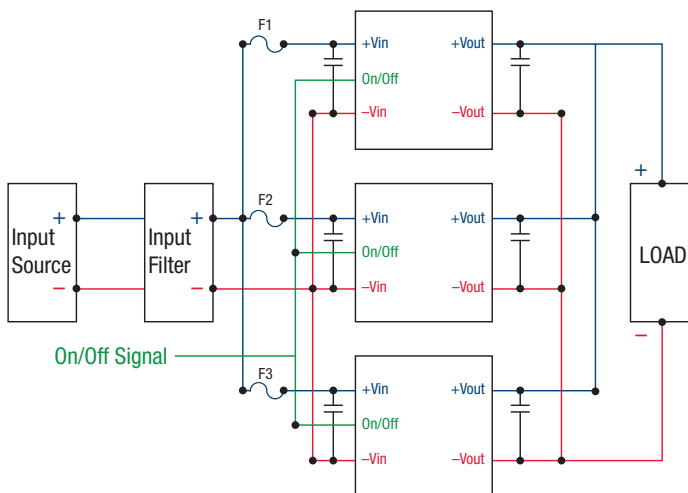

Figure 2. Load Sharing Block Diagram
Two or more converters may be connected in parallel at both the input and output terminals to support higher output current (total power, see figure 2) or to improve reliability due to the reduced stress that results when the modules are operating below their rated limits. For applications requiring current share, follow the guidelines below. See specification table for Output Voltage set points. The stated output voltage set point is trimmed to a very narrow range ($11.7V \pm 10mV @ 48Vin, 50\%$ load). The output voltage will decrease when the load current is increased. Our goal is to have each converter contribute nearly identical current into the output load under all input, environmental and load conditions.
- It is required to use a common Remote On/Off logic control signal to turn on modules (see figure 2).